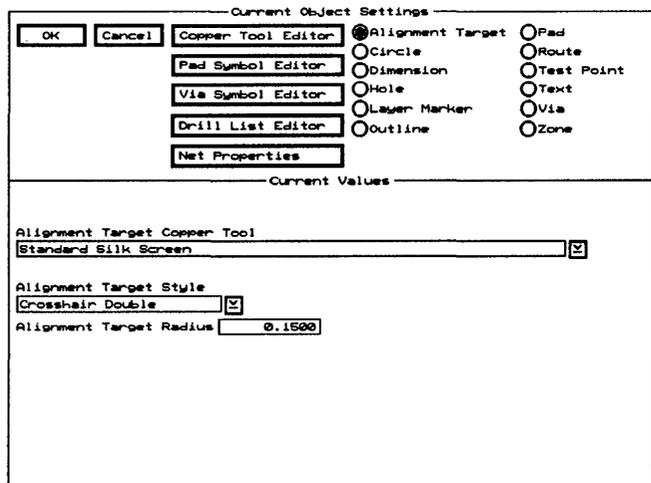

Figure 4-8. The *Current Object Settings* dialog box.
1. Select **Current Settings** in **Global Options**. The **Current Object Settings** dialog box displays (figure 4-8).